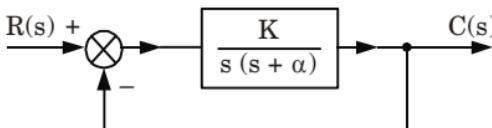

Fig. 3.8.1.
2. Consider a system shown in the Fig. 3.8.1.